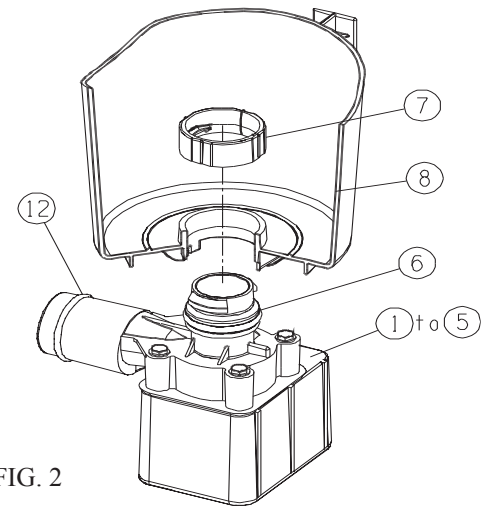
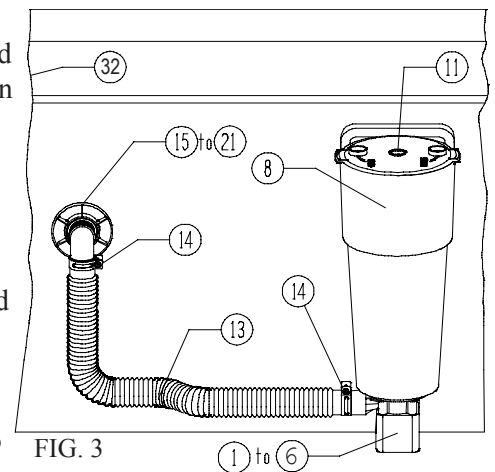

FIG. 2
FIG. 3
A. First, Locate the filter assembly, remove the Lock Top (11), Strainer Basket (10), and Filter Cartridge (9) from the assembled Filter Case. Locate the mounting location for the power filter on the Pool Wall (32). Install one Gasket (22) over the four alignment pins on the skimmer canister (8) and place it up to the outside pool wall inserting the four alignment pins through the four large holes in pool wall. Now leaning against the Skimmer to hold it in place add the inside gasket (22) over the pins on the inside of the pool wall. Now place the Face Plate (23) over the alignment pins. Place the Hex Head Screws (24) into their holes. Start all the Hex Head Screws one and a half turns each. Then proceed in tightening them in equal turns each in sequence around the Face Plate until all are equally tight and you have a good even seal. **Warning!** Be sure not to over tighten them, you just need a water tight seal.
B. Now lubricate the pump O-ring (6) with petroleum jelly (not provided). Hold the Skimmer Canister (8) securely, and insert pump assembly (1-6) so that the outlet on the Volute Housing (4) extends out to the side of the canister as shown in Fig. 2. Insert the pump until it bottoms out, and the two ribs on the volute housing insert into the two slots on the bottom of the canister. Reach down inside the canister and place the Pump Retaining Nut (7) over the top of the volute housing inlet as shown in Fig. 2. Twist the Nut (7) clockwise until it is snug.
C. Locate the Pool Wall Fitting assembly parts (15-21). Lubricate the black Wall Fitting Gasket (16) with petroleum jelly and install it over the threads on the Pool Wall Fitting (15). Insert the pool wall fitting with the gasket through the hole in the wall from the inside of the pool. Place the Thrust Washer (17) over the pool wall fitting and then thread the Wall Fitting Nut (18) onto the fitting until it is hand tight. **DO NOT** over tighten the wall fitting nut or wrinkle the pool wall around the Wall Fitting Thrust Washer (17) or Wall Fitting Gasket (16). Now apply some petroleum jelly to the thread of the Elbow 90° (19) and install the elbow into the wall fitting assembly. Install the Diverter Fitting (20) and Locking Ring (21) onto the wall fitting.
D. Get the Return Hose (13) and remove the two Hose Clamps (14) from the hardware bag. Loosen the hose clamps and slide them over the end of the hose. It is recommended to lubricate the O-Rings (12) on the Volute Housing (4) and on the Elbow (19) before installing the hose (13). Install the hose on the pump volute housing and on the Elbow (19). Tighten both of the Hose Clamps (14). See Fig. 3.